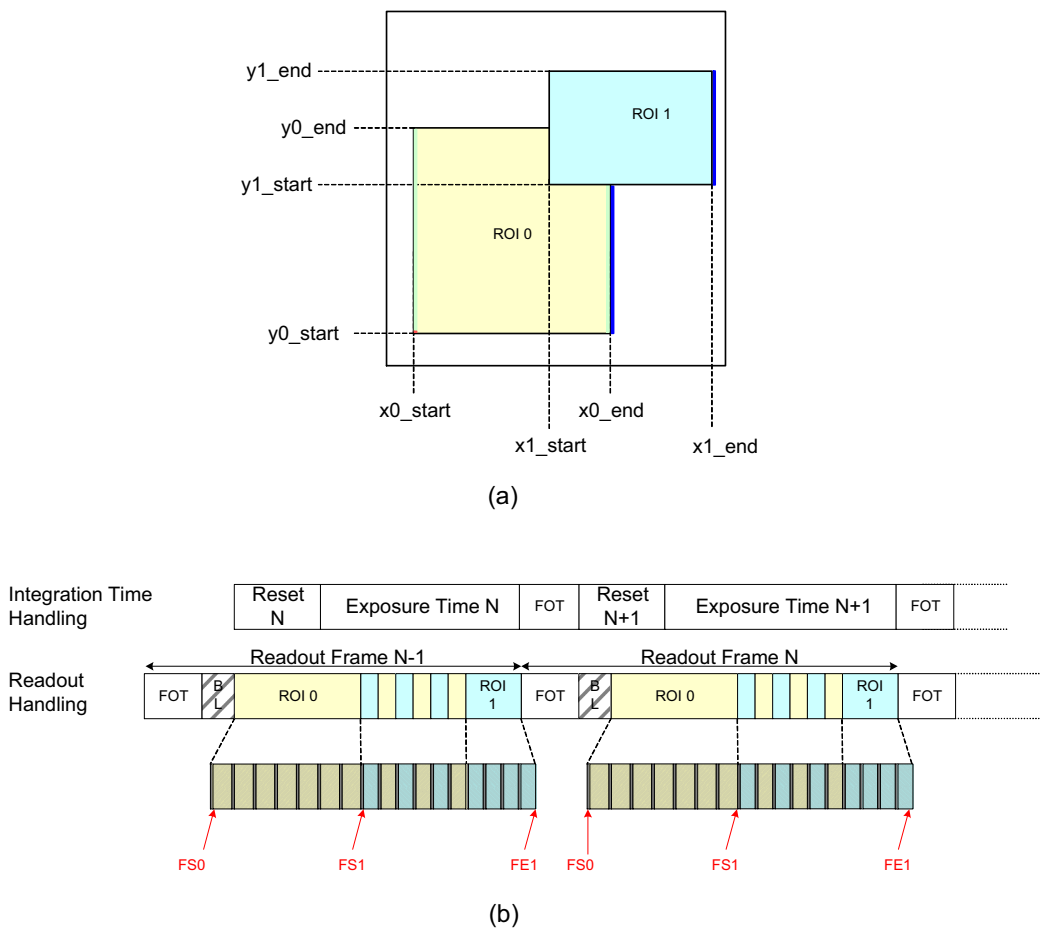

Figure 31. P1–SN/SE/FN, P3–SN/SE/FN: Frame Sync Codes
The frame format in 10-bit mode is explained by example of the readout of two (overlapping) windows as shown in Figure 31(a).
Figure 31 indicates that, after the FOT is completed, the sensor reads out a number of black lines for black calibration purposes. After these black lines, the windows are processed. First a number of lines which only includes information of ‘ROI 0’ are sent out, starting at position y0\_start. When the line at position y1\_start is reached, a number of lines containing data of ‘ROI 0’ and ‘ROI 1’ are sent out, until the line position of y0\_end is reached. From there on, only data of ‘ROI 1’ appears on the data output channels until line position y1\_end is reached.
**NOTE:** In Figure 31, only Frame Start and Frame End Sync words are indicated in (b). CRC codes are also omitted from the figure.